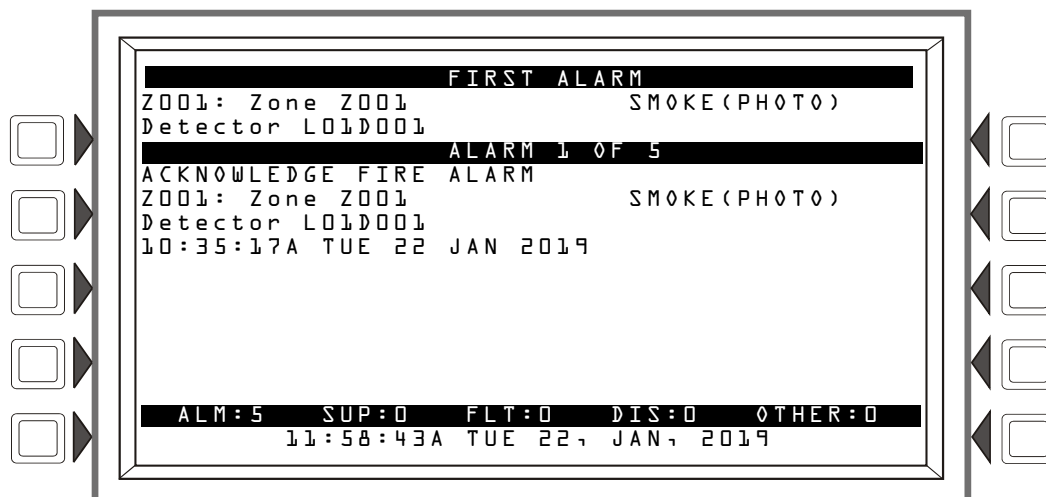

Figure 2.2 Fire Alarm Message Display Example
- Displays the FIRE ALARM Events List with the first fire alarm in the top section of the display containing a Type Code that indicates the type of device that activated the fire alarm, and other information specific to the device. The message occupies the second and third lines of the screen, replacing the System Normal message as shown in Figure 2.2 below. Refer to “Point Events Format” on page 10 for a full description of each message field